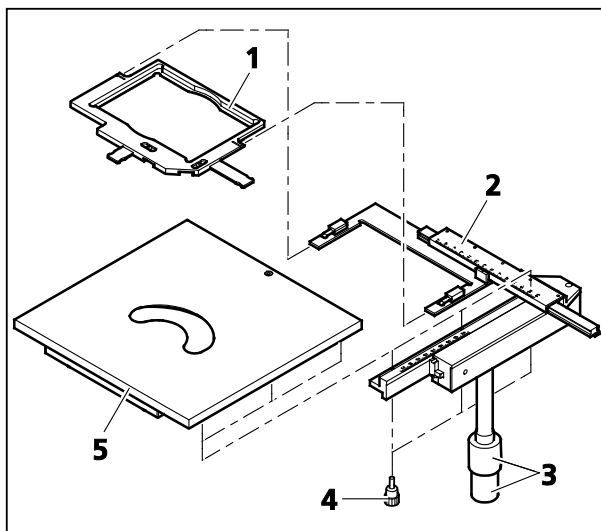

Fig. 2-15 Specimen Stage 232x230 and Object guide M 130x85 mm
- Specimen stage (Fig. 2-15/5) designed to hold and position specimens for transmitted light and reflected light
- With the object guide (Fig. 2-15/2) attached, this stage is capable of holding specimens in mounting frame Flex M (Fig. 2-15/1) and mounting frame inserts for Petri dishes or object slides and chambers, as well as accommodating mounting frame M from the current product line.
- Coaxial drive (Fig. 2-15/3) designed to position the mounting frame in XY
- To attach the object guide to the right-hand or left-hand side of the stage, set the guide onto the stage from below and secure it firmly in place with the screws supplied (Fig. 2-15/4).